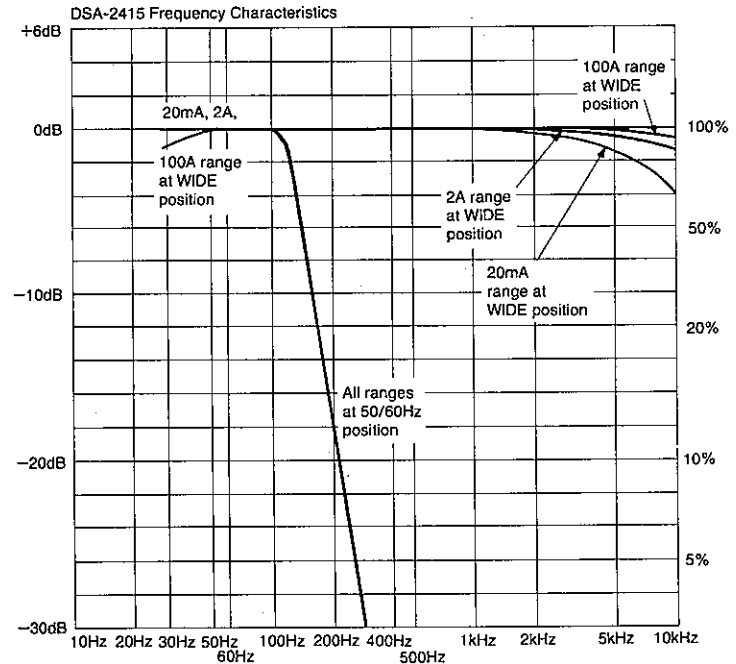

Fig. 5
--24dB/octave (signal strength declines to one sixteenth of that at the initial frequency when it doubled). Please see Fig. 5.